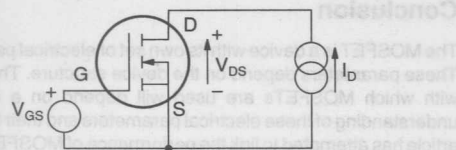

Figure 10: N-Channel  $R_{DS(ON)}$  Measurement
F.  $R_{DS(ON)}$  — The static drain-source on-state resistance. It is measured as the drain-source voltage divided by the drain current at specified values of drain current and gate source voltage. (See Figure 10 for the measurement circuit.)
F.  $R_{DS(on)}$  - The static drain-source on-state resistance. It is measured as the drain-source voltage divided by the drain current at specified values of drain current and gate source voltage. (See Figure 10 for the measurement circuit.)